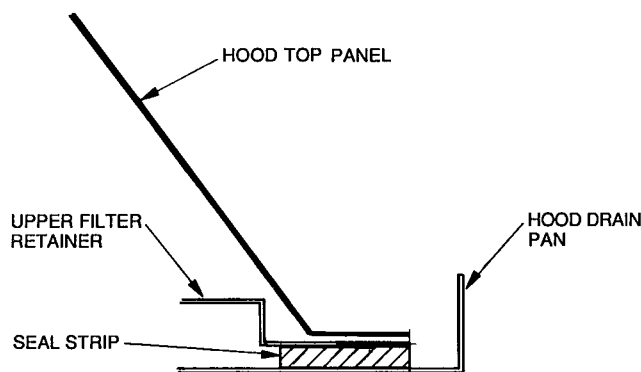

Fig. 18 — Seal Strip Location (Air Hood Crossectional View)
1. Attach seal strip to upper filter retainer. See Fig. 18.